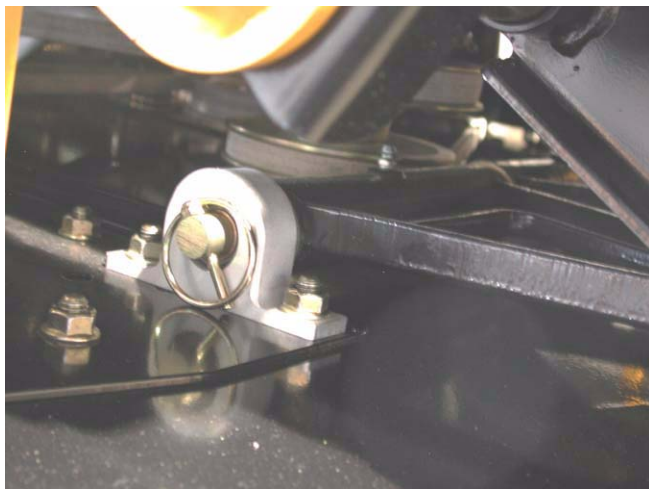

Figure 9.11
- 9.11. Improved self-aligning pillow blocks now suspend the deck. See Figure 9.11.